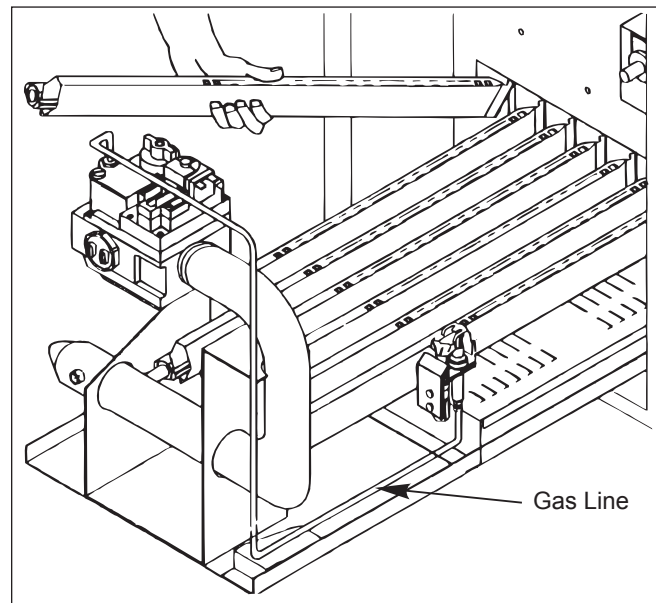

Figure 33. Burner removal.
11. Hold the gas burner or pilot burner firmly, and push it away from the manifold until it is clear of the orifice. Slide the burner to be replaced out of the burner tray (see Figure 33).